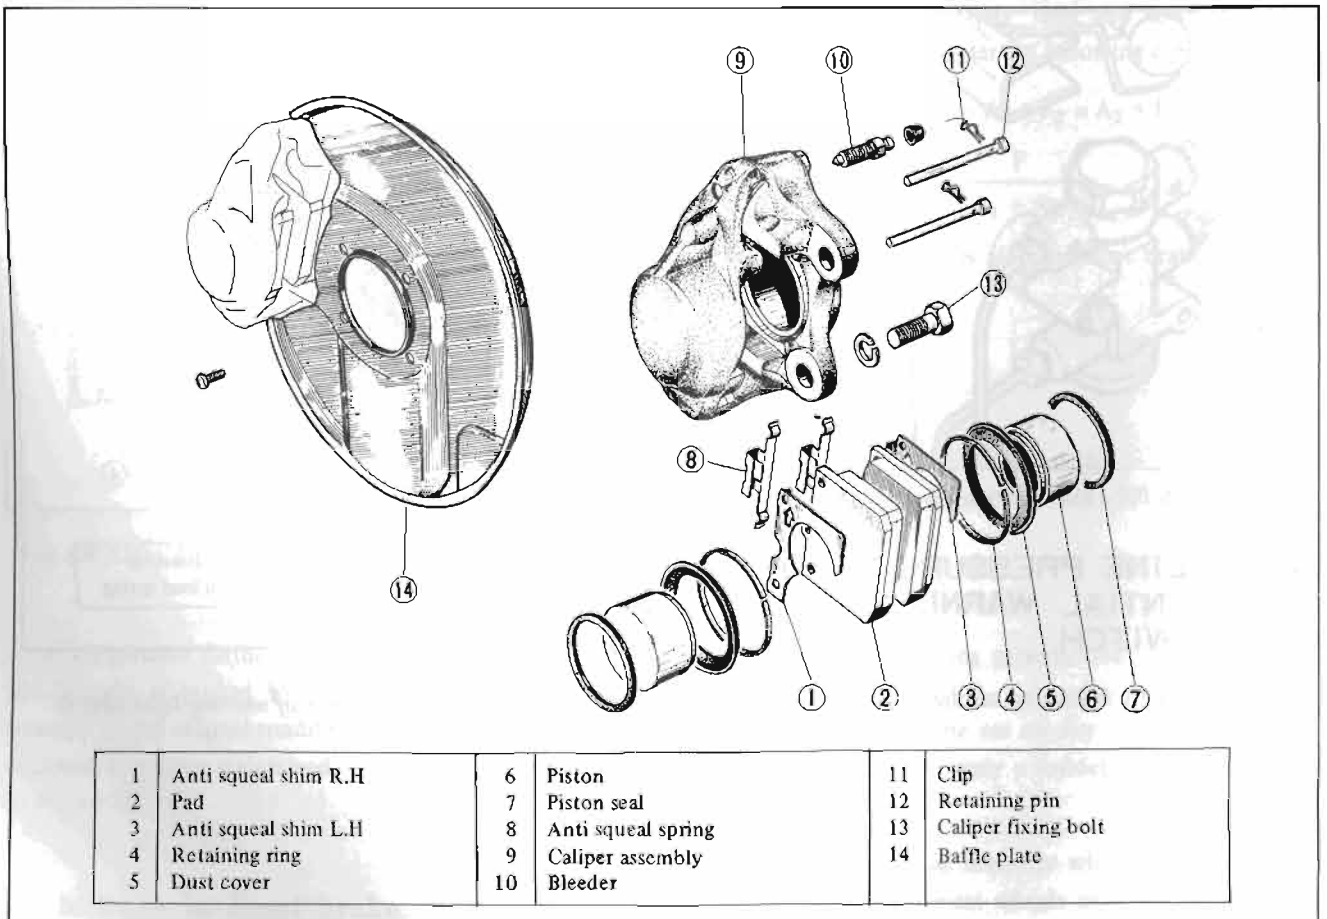

Fig. BR-15 Front disc brake
2. Remove the retaining ring ④ and dust seal ⑤ in that order. (Refer to Figure BR-15.)